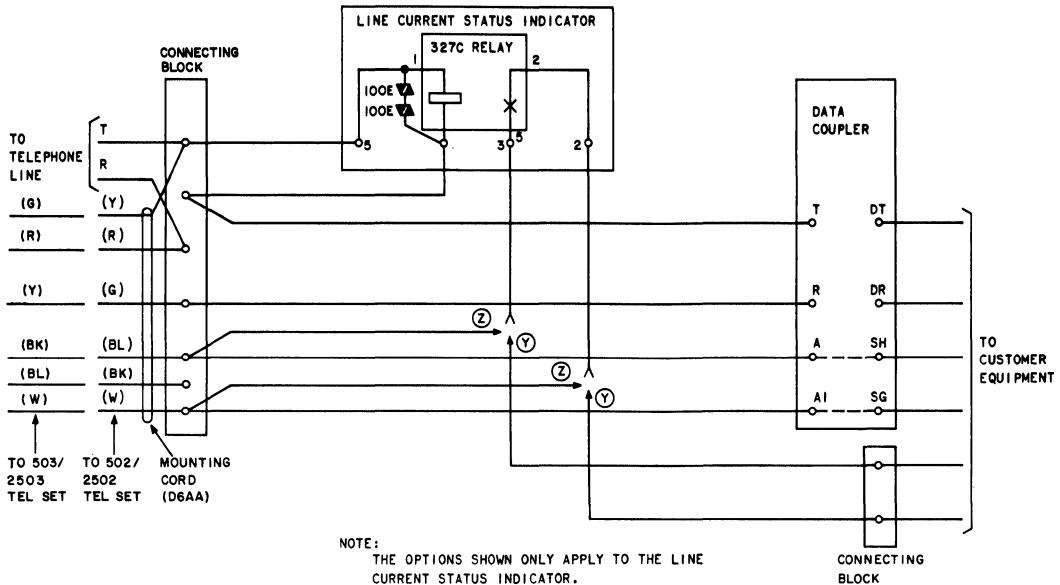

Fig. 13—Line Current Status Indicator Connection Diagram
3.13 The LCSi (Fig. 13) must be made locally. It consists of a dry reed relay and two varistors on a 74B-49 connecting block measuring 2.75 inches wide, 4 inches long, and 1.6 inches high. The relay is in series with the coupler and gives a contact closure at the customer interface or the input to the coupler SH driver circuit when at least 20 mA of line current is flowing through the relay and coupler. The two varistors are used to provide a low-impedance transmission path to the coupler.
- (3) Apply adhesive (Eastman 910 or equivalent) in the area to be occupied by the 327C relay.
- (4) Place relay on baseplate, topside down.
- (5) Remove and discard the lower screws from terminal strip eyelets in positions 2, 3, 4, and 5.
- (6) Wire the LCSII in accordance with Fig. 13.